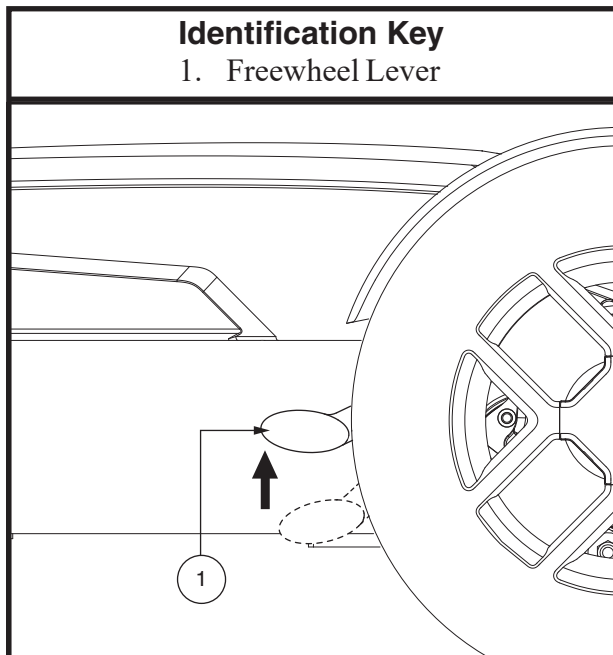

Figure 5. Drive Mode (Drive Engaged)
2. Pull both levers upward to engage the drive motors (drive mode). See figure 5.
2. Ensure the power chair is in drive mode. See **figure 5**.